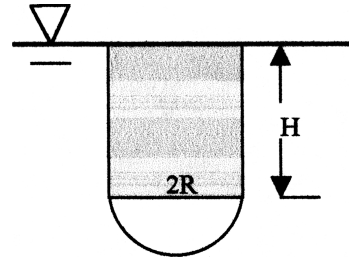

Fig. P2.74
**2.74** Find the height  $H$  in Fig. P2.74 for which the hydrostatic force on the rectangular panel is the same as the force on the semicircular panel below. Find the force on each panel and set them equal: